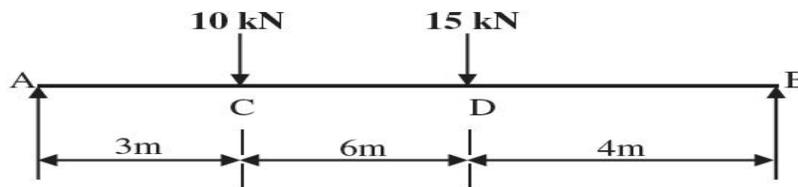

Figure.2
14. A beam is loaded as shown in Figure.2. Determine the deflection under the load points. Take $E=200 \text{ Gpa}$ and $I = 160 \times 10^6 \text{ mm}^4$. Use Macaulay's method. 16 CO3 [K₃]